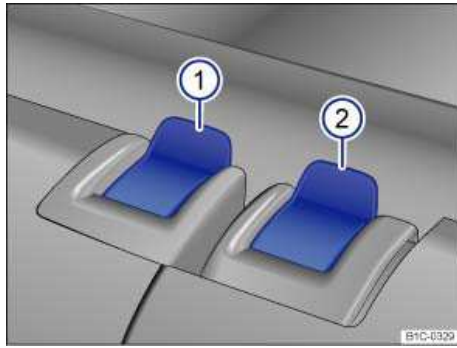

Fig. 86 Rear seat: release button right backrest 1, left backrest 2.
- Pull the release button ⇒ fig. 86 (1) or (2) forward while folding the rear backrest forward.